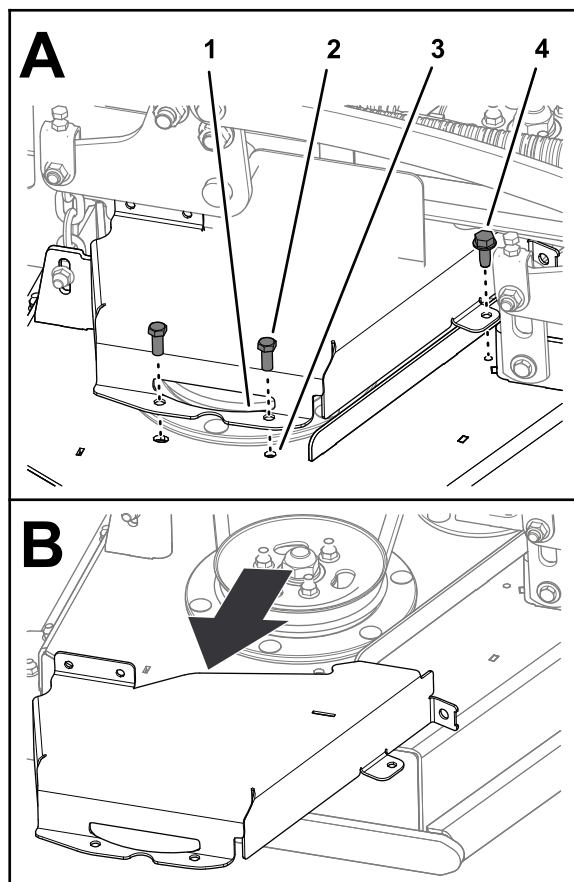

Figure 39
2. Remove the 2 bolts and flange-head screw that secure the right belt cover to the deck, and remove the cover (Figure 39).